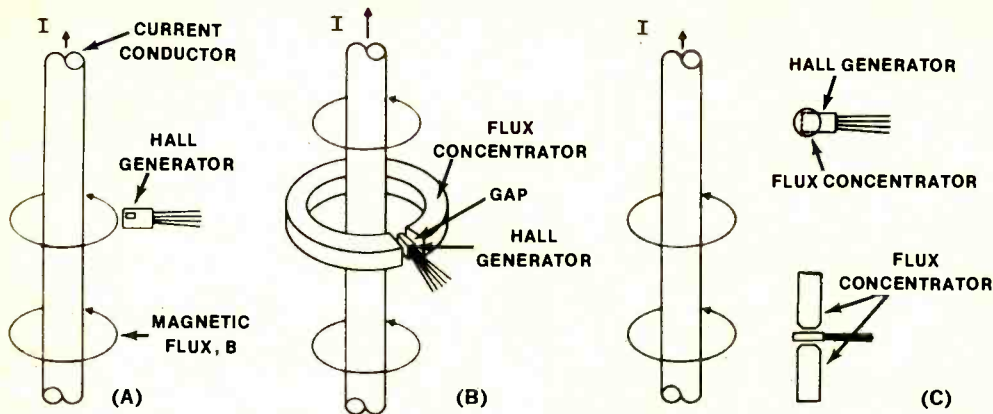

Fig. 2. A simple current sensor is shown at (A). In (B), the Hall generator has a flux concentrator ring. A Moly permalloy strip concentrator is shown in (C).
Fig. 2. Waveforms show timing and synchronization of digital signals. Those at (A) are for one frame of encoder; (B) are for decoder; and (C) shows control variations.
In Fig. 2 are shown various types of Hall-effect sensor applications. The simplest configuration (Fig. 2A) involves nothing more than a Hall generator mounted near a current-carrying conductor. This application works exceptionally well where very high direct currents—such as those re-